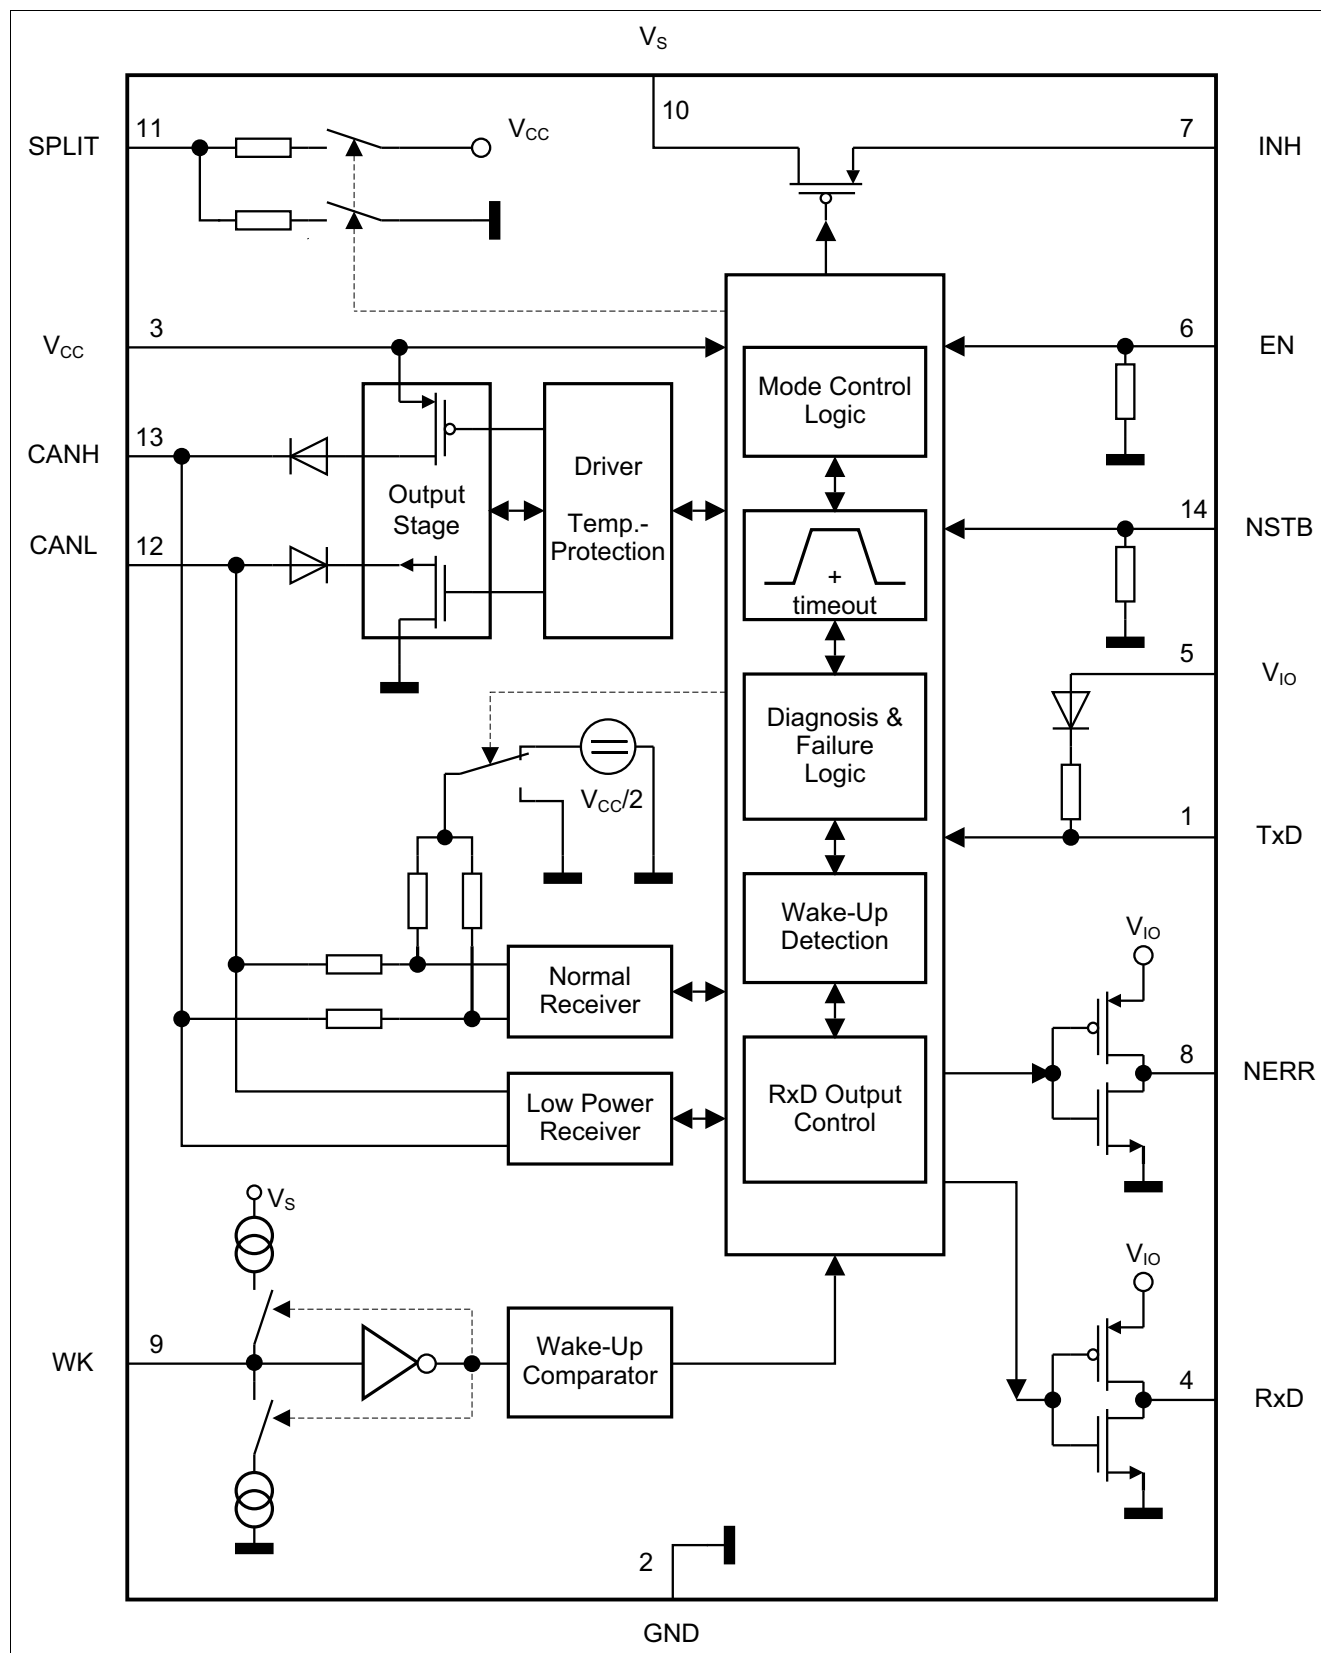
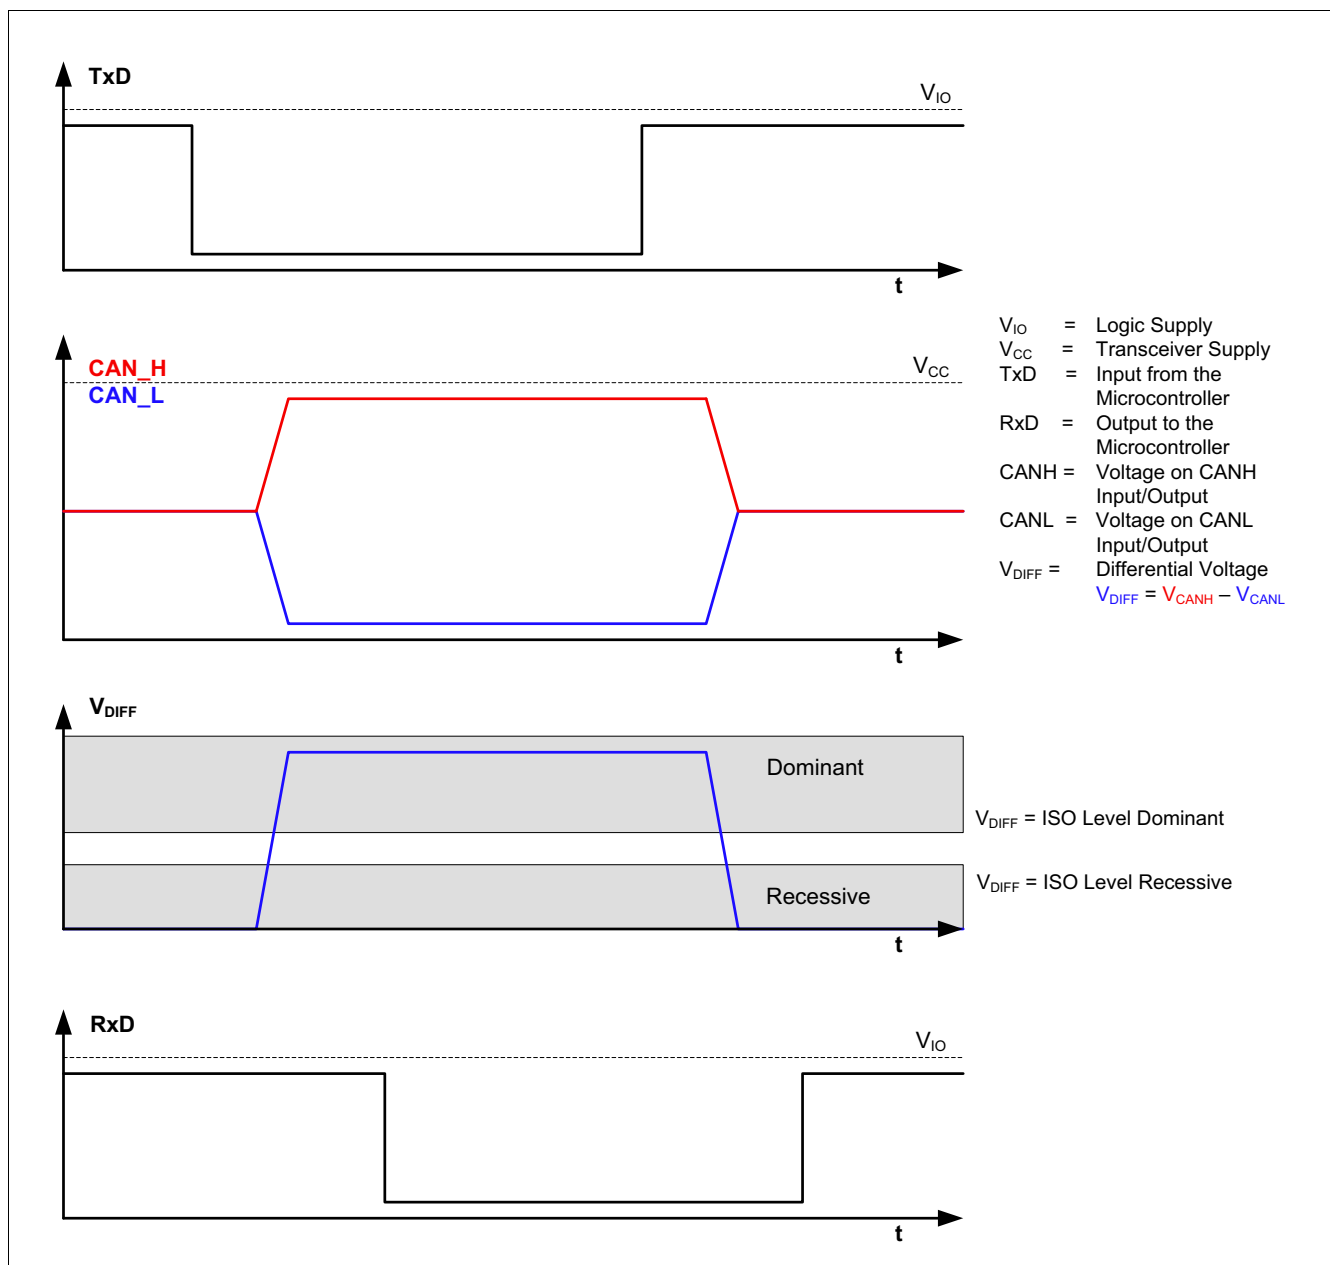

Figure 1 Block Diagram
Figure 3 High Speed CAN Bus Signals and Logic Signals
The TLE6251-2G is a High Speed CAN transceiver, operating as an interface between the CAN controller and the physical bus medium. A **H**igh **S**peed CAN network (abbreviated HS CAN) is a two wire differential network which allows data transmission rates up to 1 MBaud. Characteristic for a HS CAN network are the two CAN bus states “Dominant” and “Recessive” (see Figure 3).
The input TxD and the output RxD are connected to the microcontroller of the ECU. As shown in Figure 1, the HS CAN transceiver TLE6251-2G has a receive unit and a output stage, allowing the transceiver to send data to the bus medium and monitor the data from the bus medium at the same time. The HS CAN TLE6251-2G converts the serial data stream available on the transmit data input TxD into a differential output signal on CAN bus. The differential output signal is provided by the pins CANH and CANL. The receiver stage of the TLE6251-2G monitors the data on the CAN bus and converts them to a serial data stream on the RxD pin. A logical “Low” signal on the TxD pin creates a “Dominant” signal on the CAN bus, followed by a logical “Low” signal on the RxD pin (see Figure 3). The feature, broadcasting data to the CAN bus and listening to the data traffic on the CAN bus simultaneous is essential to support the bit to bit arbitration on CAN networks.
- Through the internal resistors R_I (see Figure 1), the pins CANH and CANL are connected to GND.